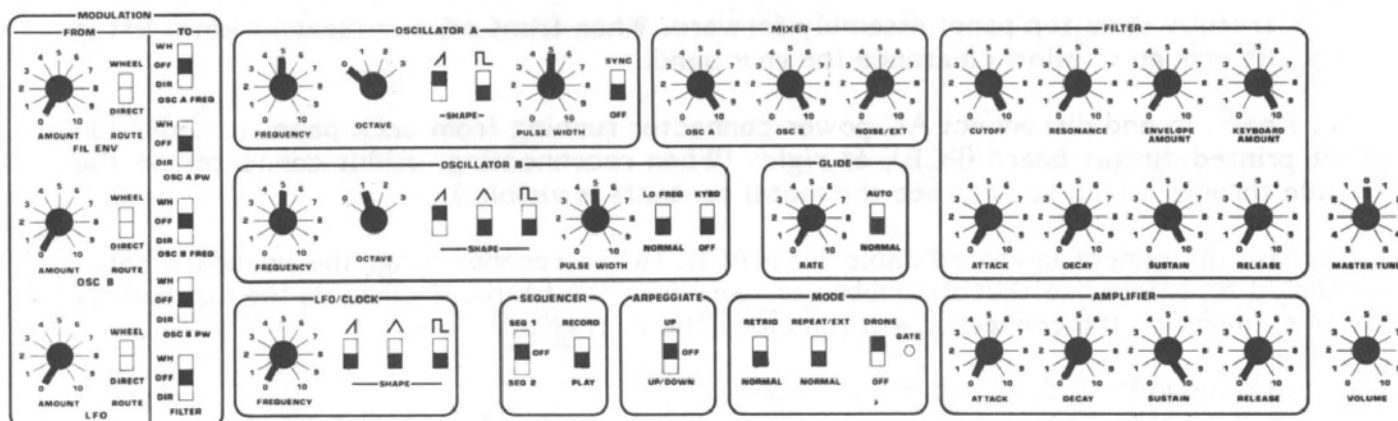
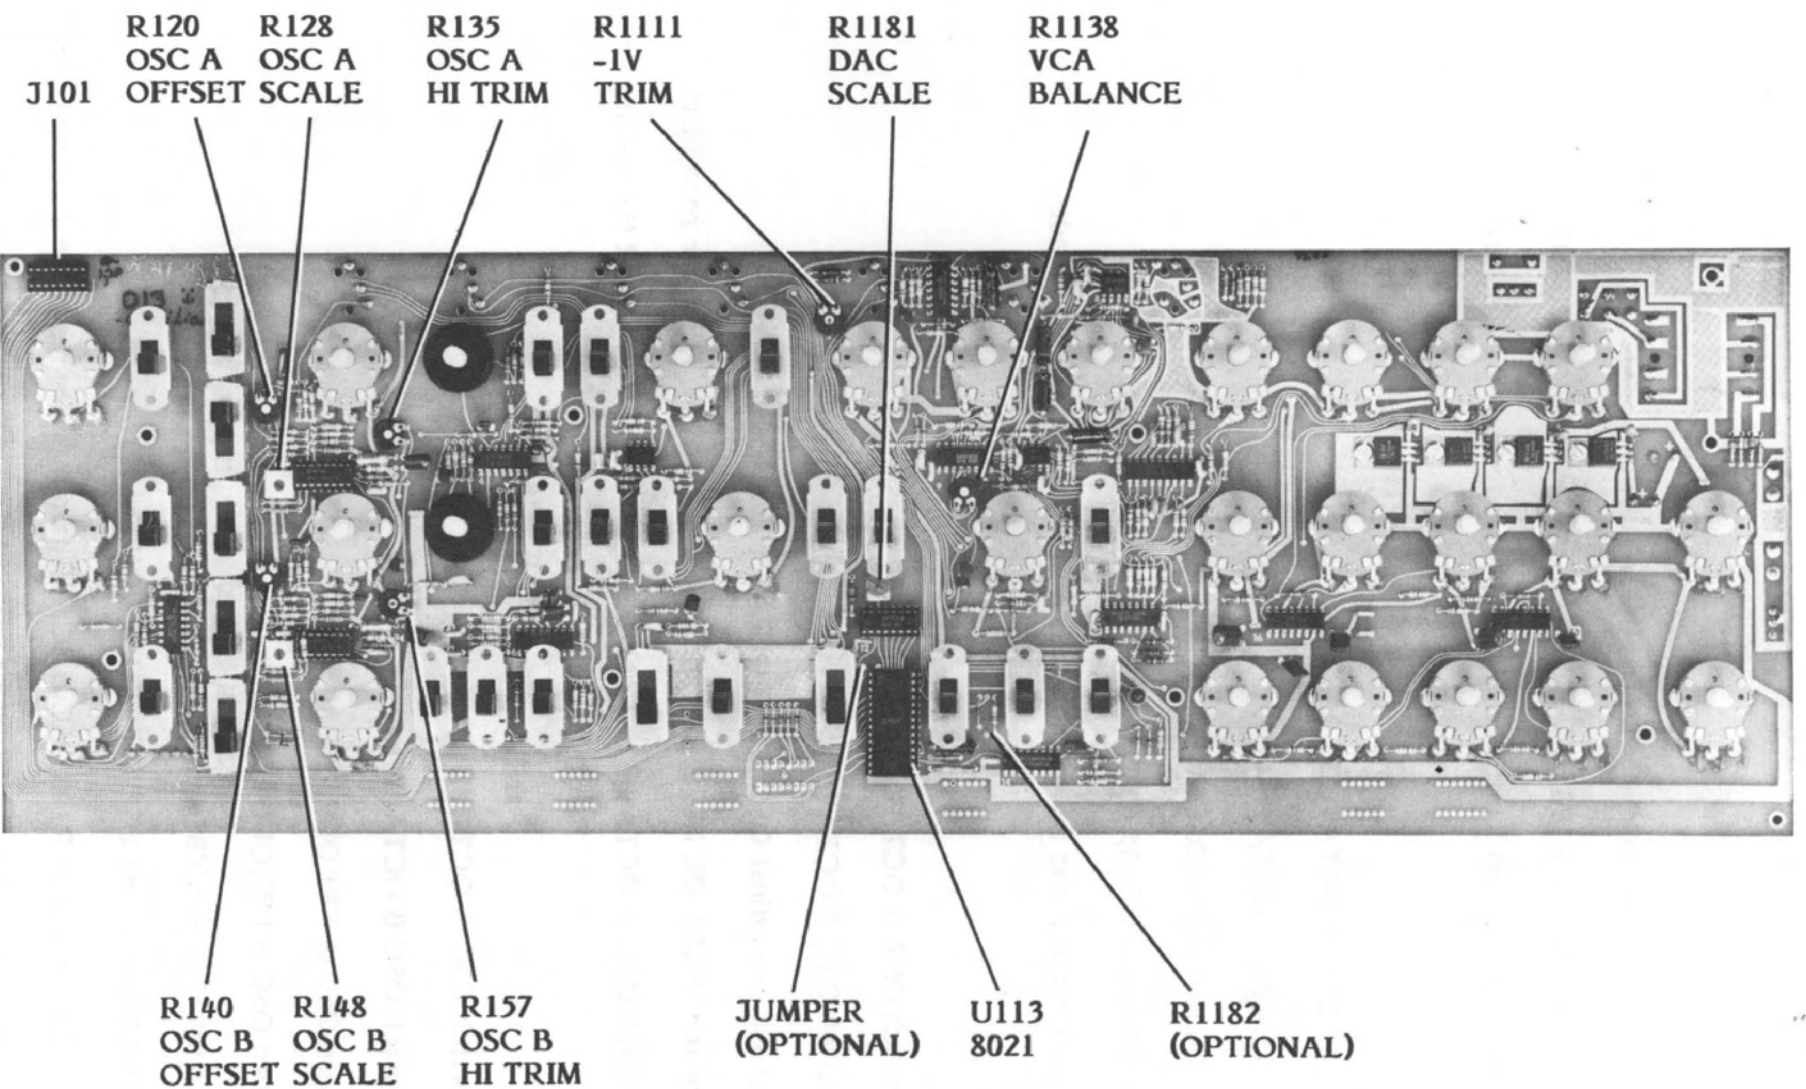

Figure 5-0
Figure 5-1
1. Patch according to Figure 5-0. Start a full tuning by presetting both R120 OSC A and R140 OSC B OFFSET trimmers to the middle of their range. For component locations, see Figure 5-1.
1. Remove U113 (see Figure 5-1) 8021 microcomputer from its socket. Keep it safe. Note that with the 8021 removed, the Pro-One's keyboard cannot operate.
3. Add R1182, 10K-ohm, 1/4W, 5% resistor where shown on Figure 5-1.